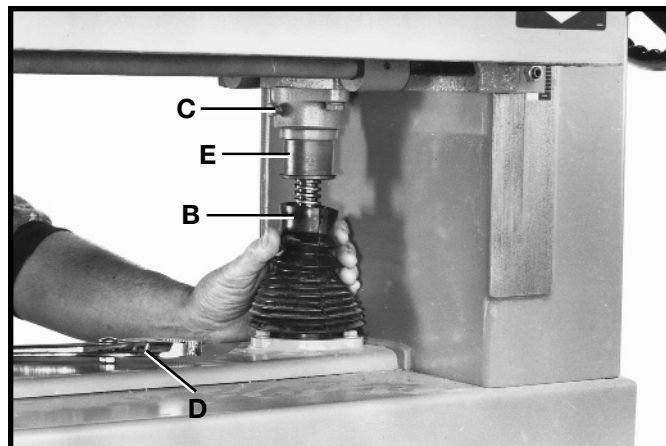

Fig. 51
- If the table is not parallel to the cutterhead, lower boot (B) Fig. 51, which is located underneath the table. **NOTE:** Table elevating handwheel must be unlocked when making this adjustment.
- Loosen lock screw (C) Fig. 51, and with large pliers (D) turn adjustment sleeve (E) as necessary until table is parallel with the cutterhead. Tighten lock screw (C) after adjustment is made and replace boot (B). **NOTE:** The same adjustment can also be made on the other side of the planer if necessary.